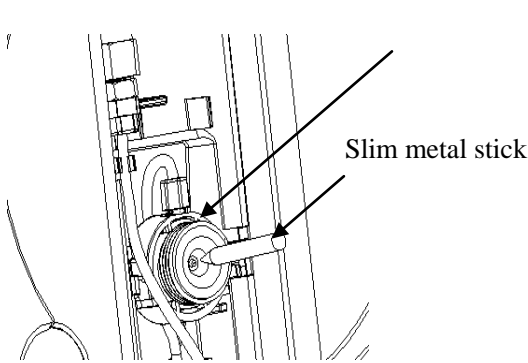

Figure 31
1. Firstly, pick out the seal washer with a tiny metal stick (Show as figure 31), and take out CO2 connector (if only replace the seal washer, this step can be cancelled). Be careful not damage other parts of regulator.